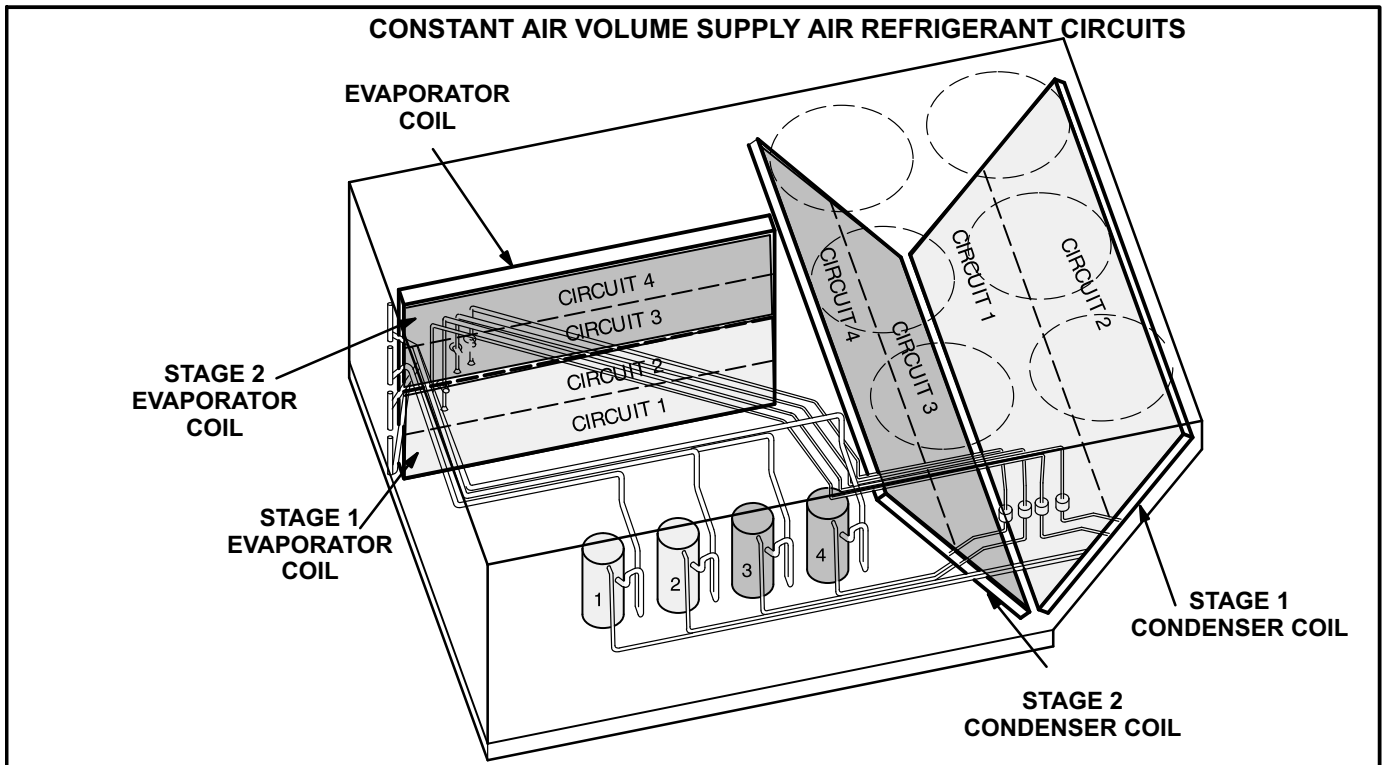

FIGURE 21
- 3- Units contain four refrigerant circuits or systems. Evaporator and condenser coil refrigerant circuits 1 and 2 make up stage 1 cooling. Evaporator and condenser refrigerant circuits 3 and 4 make up stage 2 cooling. See figure 21 or 22.